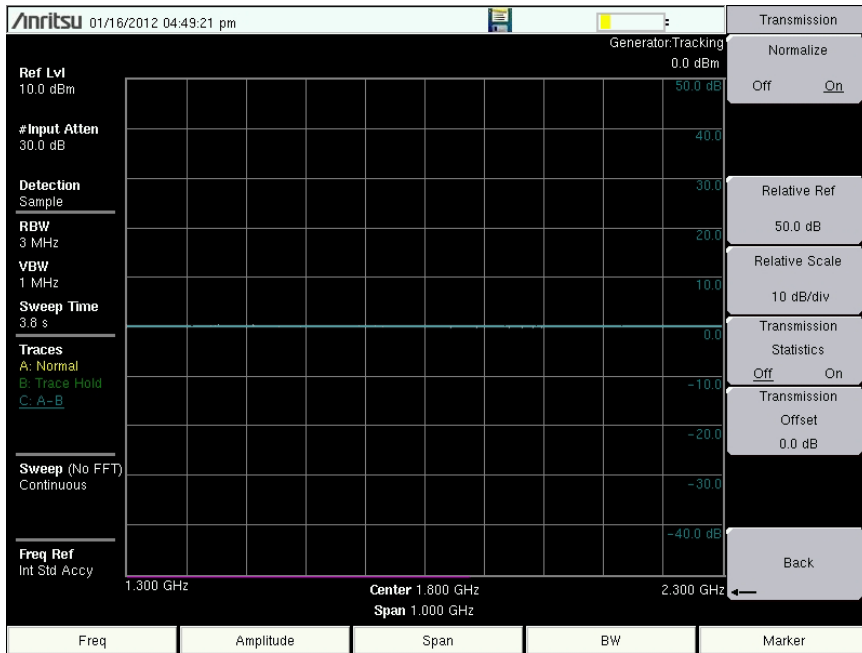

Figure 2-6. Normalized Through Cable (Trace at 0 dB)
2. Figure 2-6 shows a through cable measurement after normalization. Note the relative scale numbers on the graticule lines (in increments of 10 dB) on the right side of the sweep window now that Normalization is ON. If desired, the resolution bandwidth and video bandwidth can be changed after normalization without needing to renormalize. After the normalization sweep is completed, reconnect the DUT between the GENERATOR/RF OUT and ANALYZER/RF In connectors.